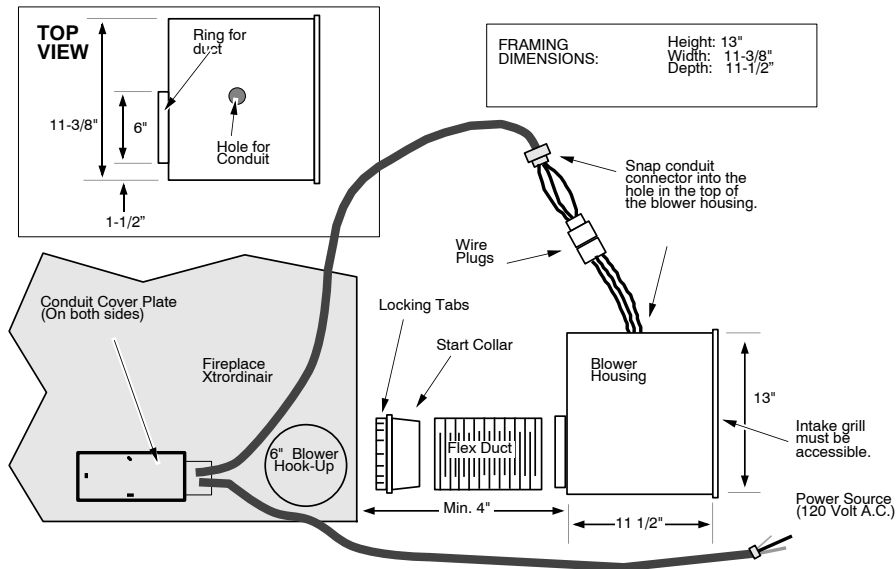

Figure 17
- Connect the blower duct to the right, left, or bottom of the fireplace. See Figure 17 for an overview.
Remove the side cover plate. Insert the starter section into the blower hook-up hole and bend the locking tabs outwards, locking the starter section in place (see Figure 17).
Remove the cover plate and pass-through plate on the bottom of the fireplace (both are held in place with the same 4 screws). Remove the 8-1/2" by 6-1/4" air deflector (flapper) above the cover plate and secure the starter section to the 6" diameter hole above the air deflector (bend the locking tabs outwards, locking the starter section in place - see Figure 17). Replace the pass-through plate with the 4 screws removed earlier (the pass-through plate has a 6-1/2" diameter hole for the duct).
- Connect the electrical supply lead conduit to a 120 Volt, 60 Hz (2 Amp) electrical supply. Use a junction box to protect the electrical connection (see Figure 17).
- Connect the blower conduit to the blower box by attaching the two molex connectors together. Insert the molex connectors into the blower box. Then attach the conduit to the blower box by inserting it into the top until it snaps in place (see Figure 17).